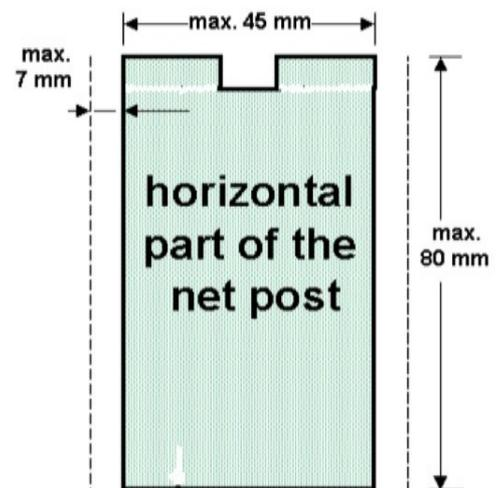

Figure 5: Cut through the horizontal part of the net post
8. The horizontal part of the net supporting post shall not project more than 160mm outside the table-top side and not more than 100mm across the table surface towards its centre; for tables attached with a screw or spring clamp to the playing surface, this projection shall not be less than 80mm. The full height of the outside portion of the horizontal part shall not be more than 80mm, including any adjusting device. The height of the portion above the playing surface of the horizontal part shall not be more than 15mm. The width of the horizontal part shall not be more than 45mm and any device for adjusting the height of the net or the tension in the suspending cord shall not project more than 7mm on both sides (**figure 5**).